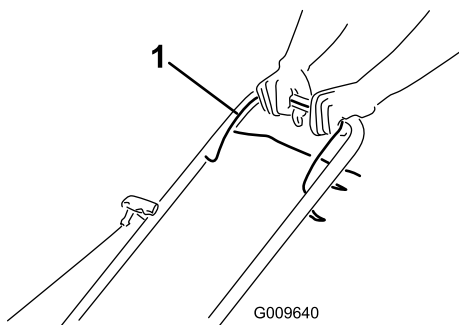

Figure 11
2. Hold the blade control bar (Figure 11) against the handle.